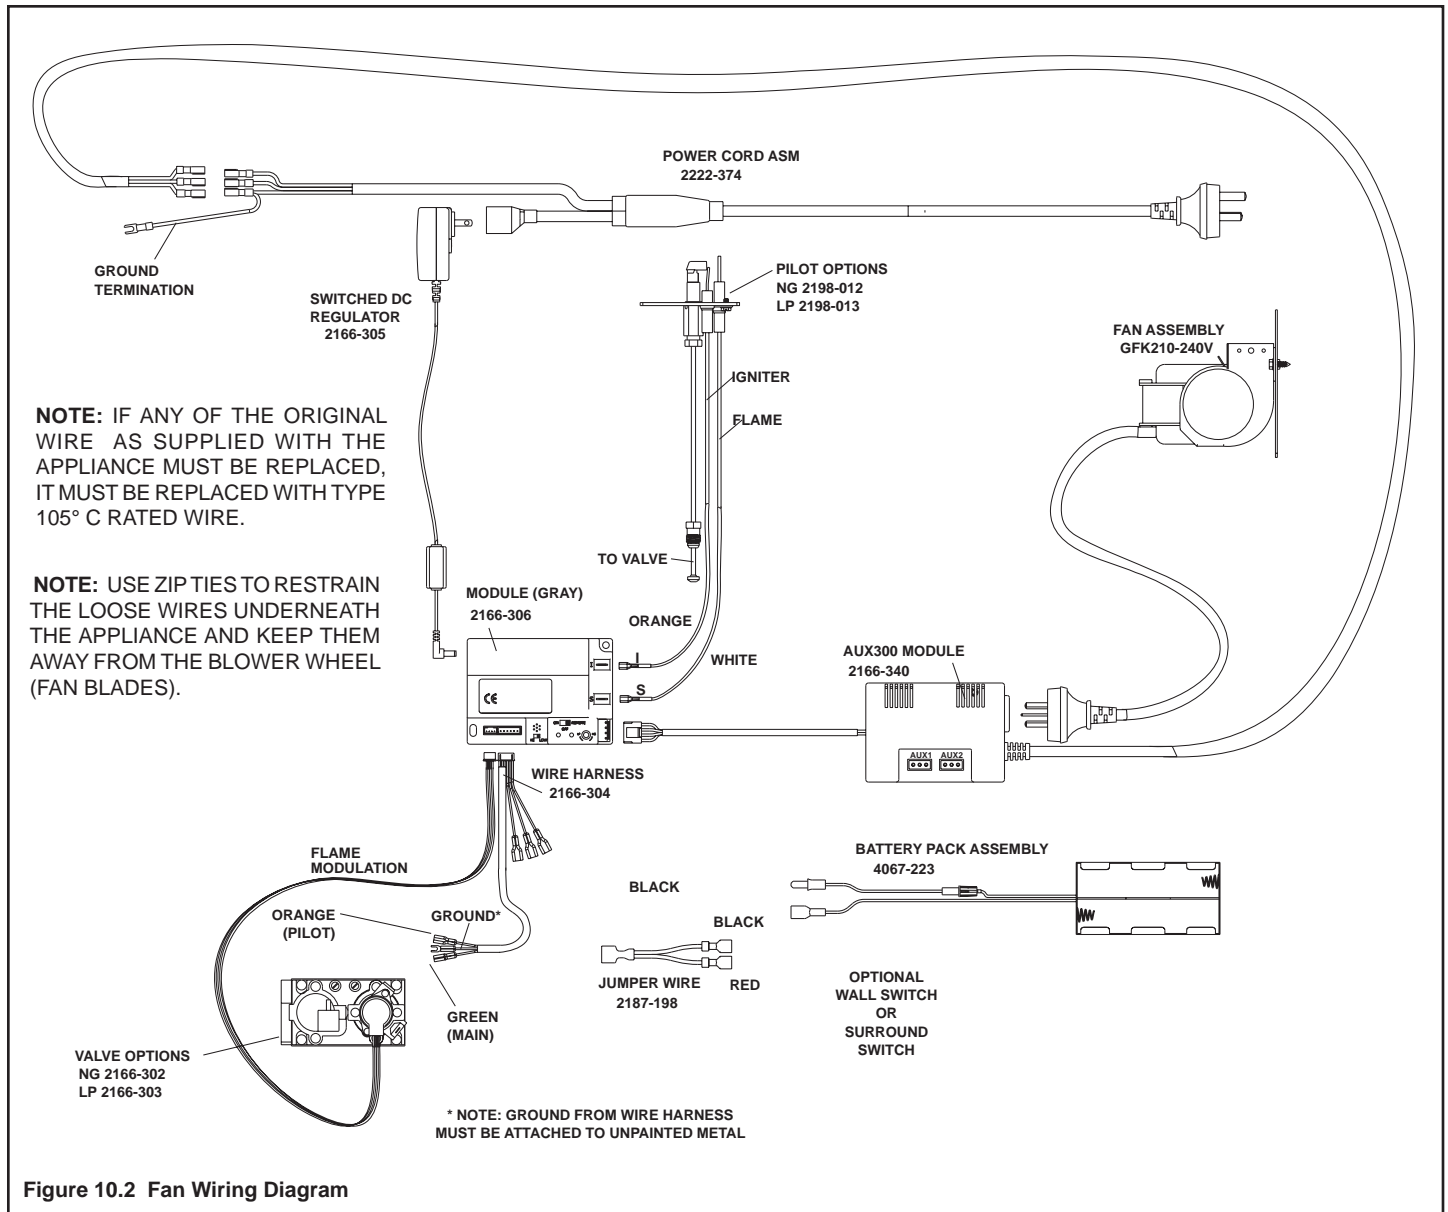

Figure 10.2 Fan Wiring Diagram
- To connect optional accessories, the supplied cord assembly should be used. See attached Figure 10.2 for a wiring diagram for a blower or remote.